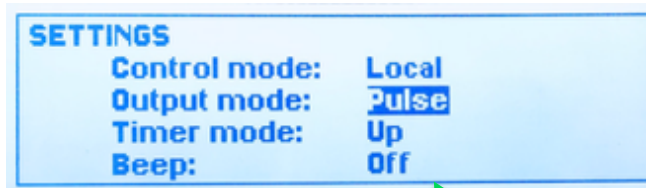

Fig.4.3.5
4. **Beep:** On or Off – Fig.4.3.5